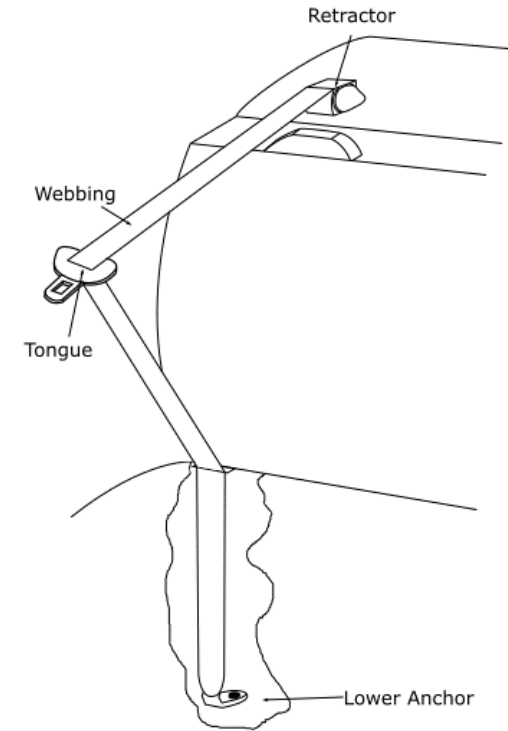

Figure 1.3 Parcel Shelf belt
- Figure 1.3 shows an On top of parcel shelf belt. For the Under parcel shelf belt, the retractor would be upside down under the parcel shelf.